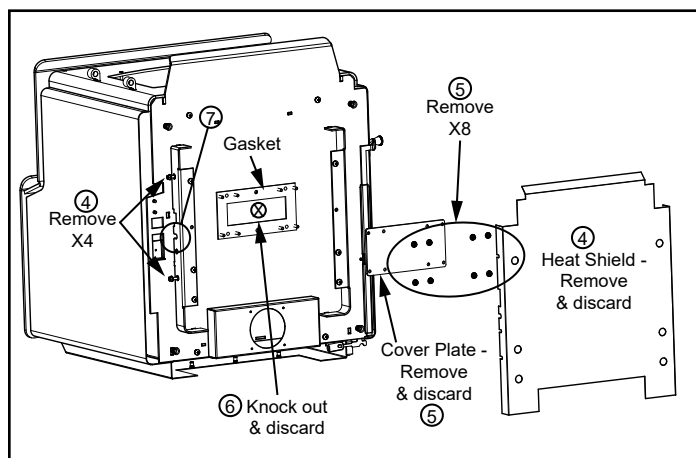

Figure 18.2
1. Open inside wall at proper height for the chimney connector to entry the masonry chimney (**Figure 18.2**).
3. Lay appliance on its back on a protective pad or pallet (**Figure 18.2**).
4. Remove heat shield by loosening the four bolts using 3/8 open end wrench (**Figure 18.2**).
5. Remove 8 nuts that hold the cover plate on using a 7/16 socket wrench; discard cover plate (**Figure 18.2**).
6. Remove knock out from bottom of firebox by using a hammer (**Figure 18.2**).
3. Lay appliance on its back on a protective pad or pallet (Figure 18.2 on page 18).
4. Remove heat shield by loosening the four bolts using 3/8 open end wrench (Figure 18.2 on page 18).
5. Remove 8 nuts that hold the cover plate on using a 7/16 socket wrench; discard cover plate (Figure 18.2 on page 18).
6. Remove knock out from bottom of firebox by using a hammer (Figure 18.2 on page 18).